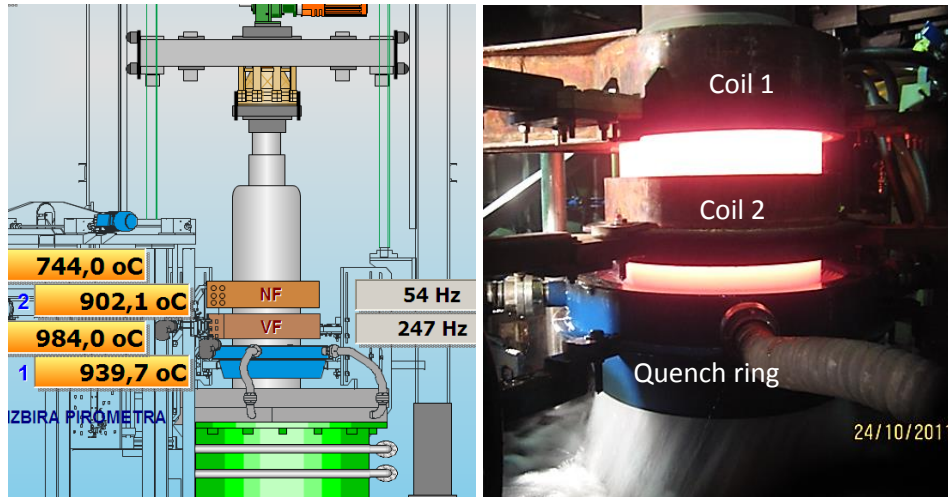
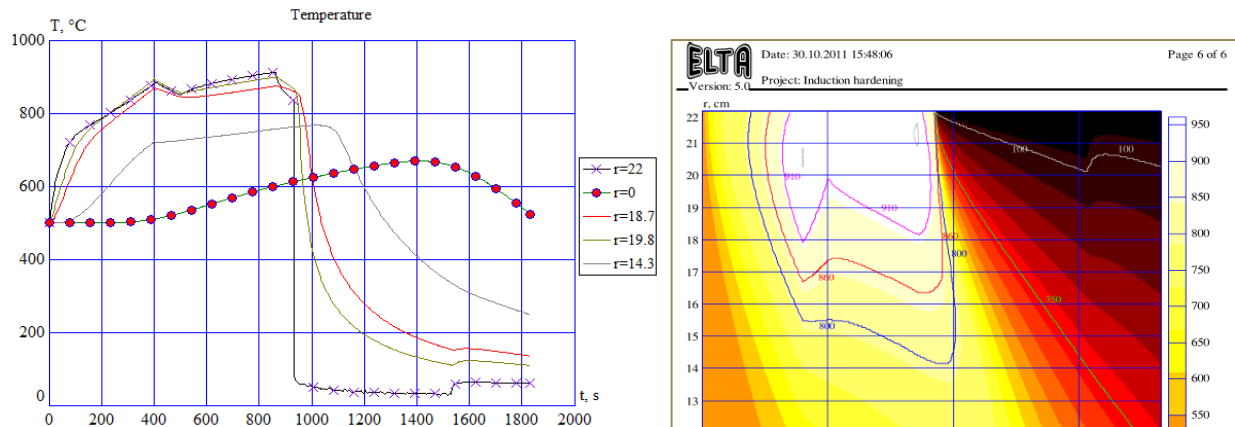

Fig. 3. Control system (left); dual frequency heating and quenching of roll (right)
Fig. 4. Temperature curves and color map for dual frequency heating of the roll
Fig. 3 shows hardening of a roll with diameter 440 mm at a speed 0.7 mm/sec. Control system makes possible to change temperatures at the end of heating in the first inductor (NF) and the second one (HF). Two inductors are also convenient for temperature control at the start and end of the roll heating. Fig.4 displays temperature dynamic curves and temperature colour map generated by ELTA 5.